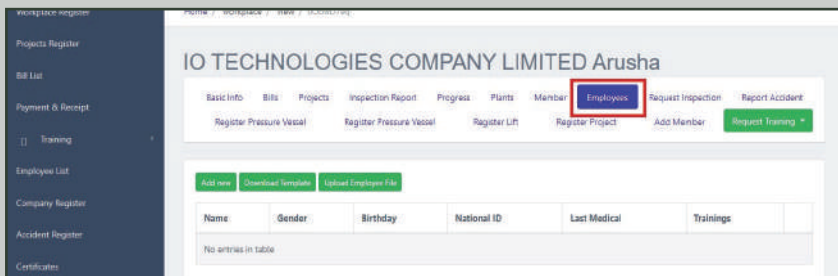

Figure 21: Accessing employee registration page
- ii) The system displays workplace details including an option for employees' details. Click on Employees Tab to register workplace employees as shown on Figure 21;